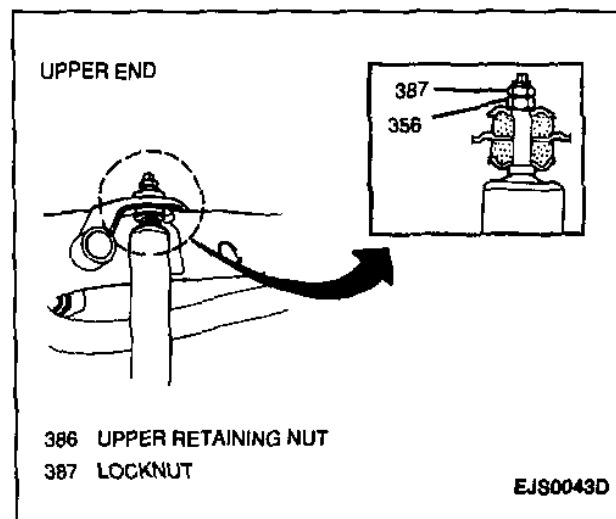

Figure 4—Shock Absorber (Upper End)
3. Shock absorber locknut and upper retaining nut (Figure 4).